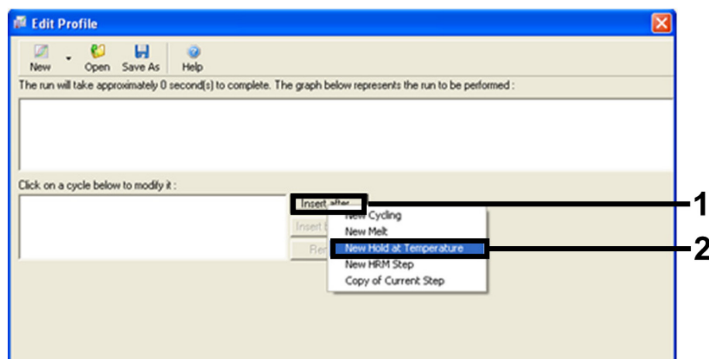

Figure 4. Inserting an initial incubation step.
6. Click “Insert after” and select “New Hold at Temperature” (Figure 4).